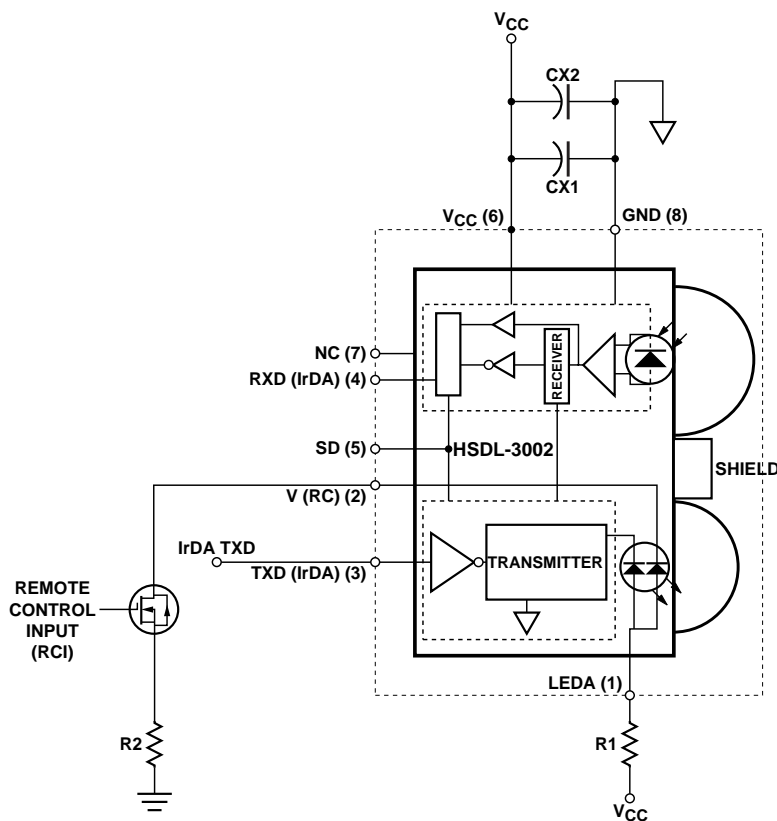

Figure 1. Functional block diagram of HSDL-3002.
- In environment with noisy power supplies, supply rejection can be enhanced by including CX2 as shown in Figure 1.